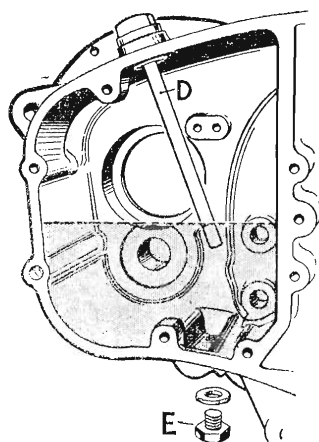

FIGURE 24.
Apart from topping-up at regular intervals, very little maintenance should be required. The filler plug carries a dipstick (D) Fig. 24, and the oil level should be maintained at the mark on the stick.
To drain the case, which should preferably be undertaken while the oil is warm after a run, unscrew the drain plug (E) Fig. 24, below the case. When replacing, make sure that the sealing ring is in good condition otherwise there may be a leakage of oil. The capacity of the gearbox is approximately $\frac{5}{8}$ U.S. pint ($\frac{1}{2}$ British pint), and suitable oils are detailed on page 28.